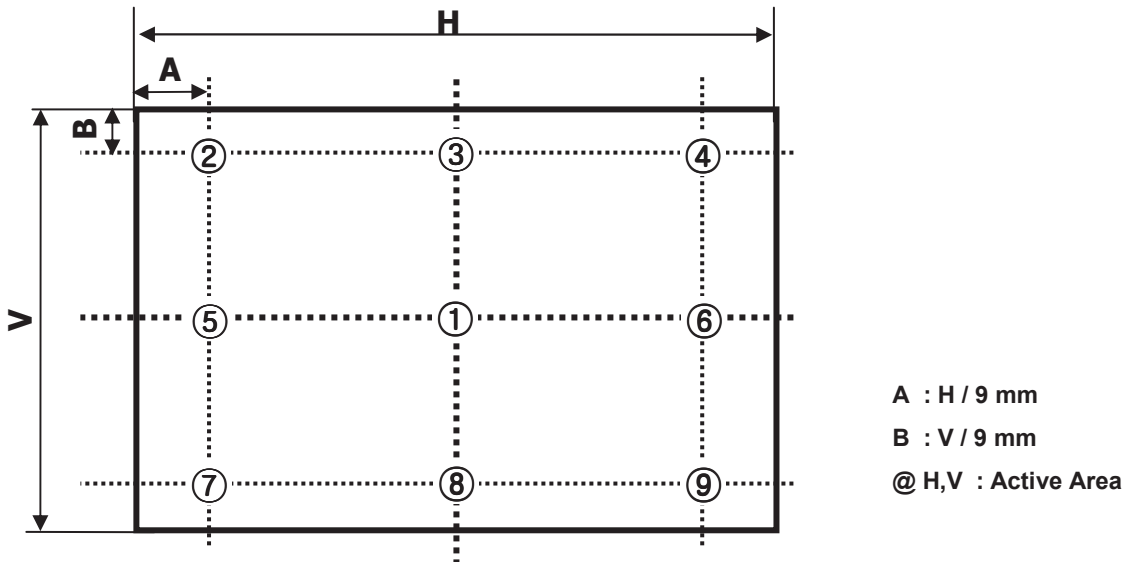

FIG. 2 9 Points for Luminance Measure
2. Surface luminance are determined after the unit has been 'ON' and 1 Hour after lighting the backlight in a dark environment at $25 \pm 2^\circ\text{C}$. Surface luminance is the luminance value at center 1-point across the LCD surface 50cm from the surface with all pixels displaying white. For more information see the FIG 2.
For more information, see the FIG. 2.